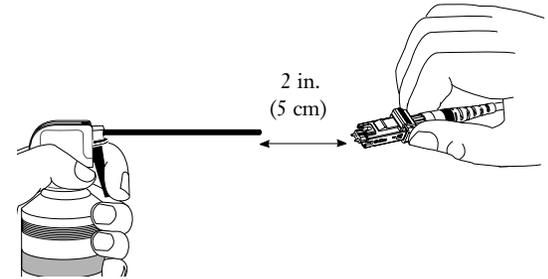

Figure 6-10
- c) Complete the cleaning by blowing the end face and guide pins with filtered compressed air or an aerosol duster. *If you are using an aerosol duster, keep the nozzle at least two inches (5 cm) away from the connector* (Figure 6-10).